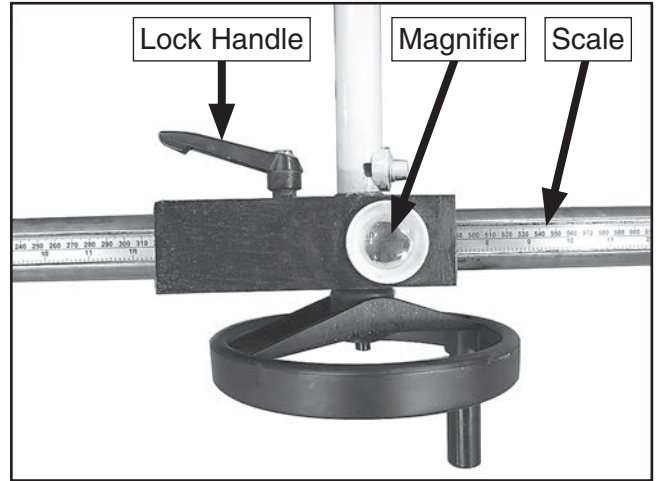

Figure 31. Rear work stop assembly features.
3. Use scale and magnifier on rear work stop assembly to set workpiece depth of cut (see **Figure 31**), then tighten lock handles.